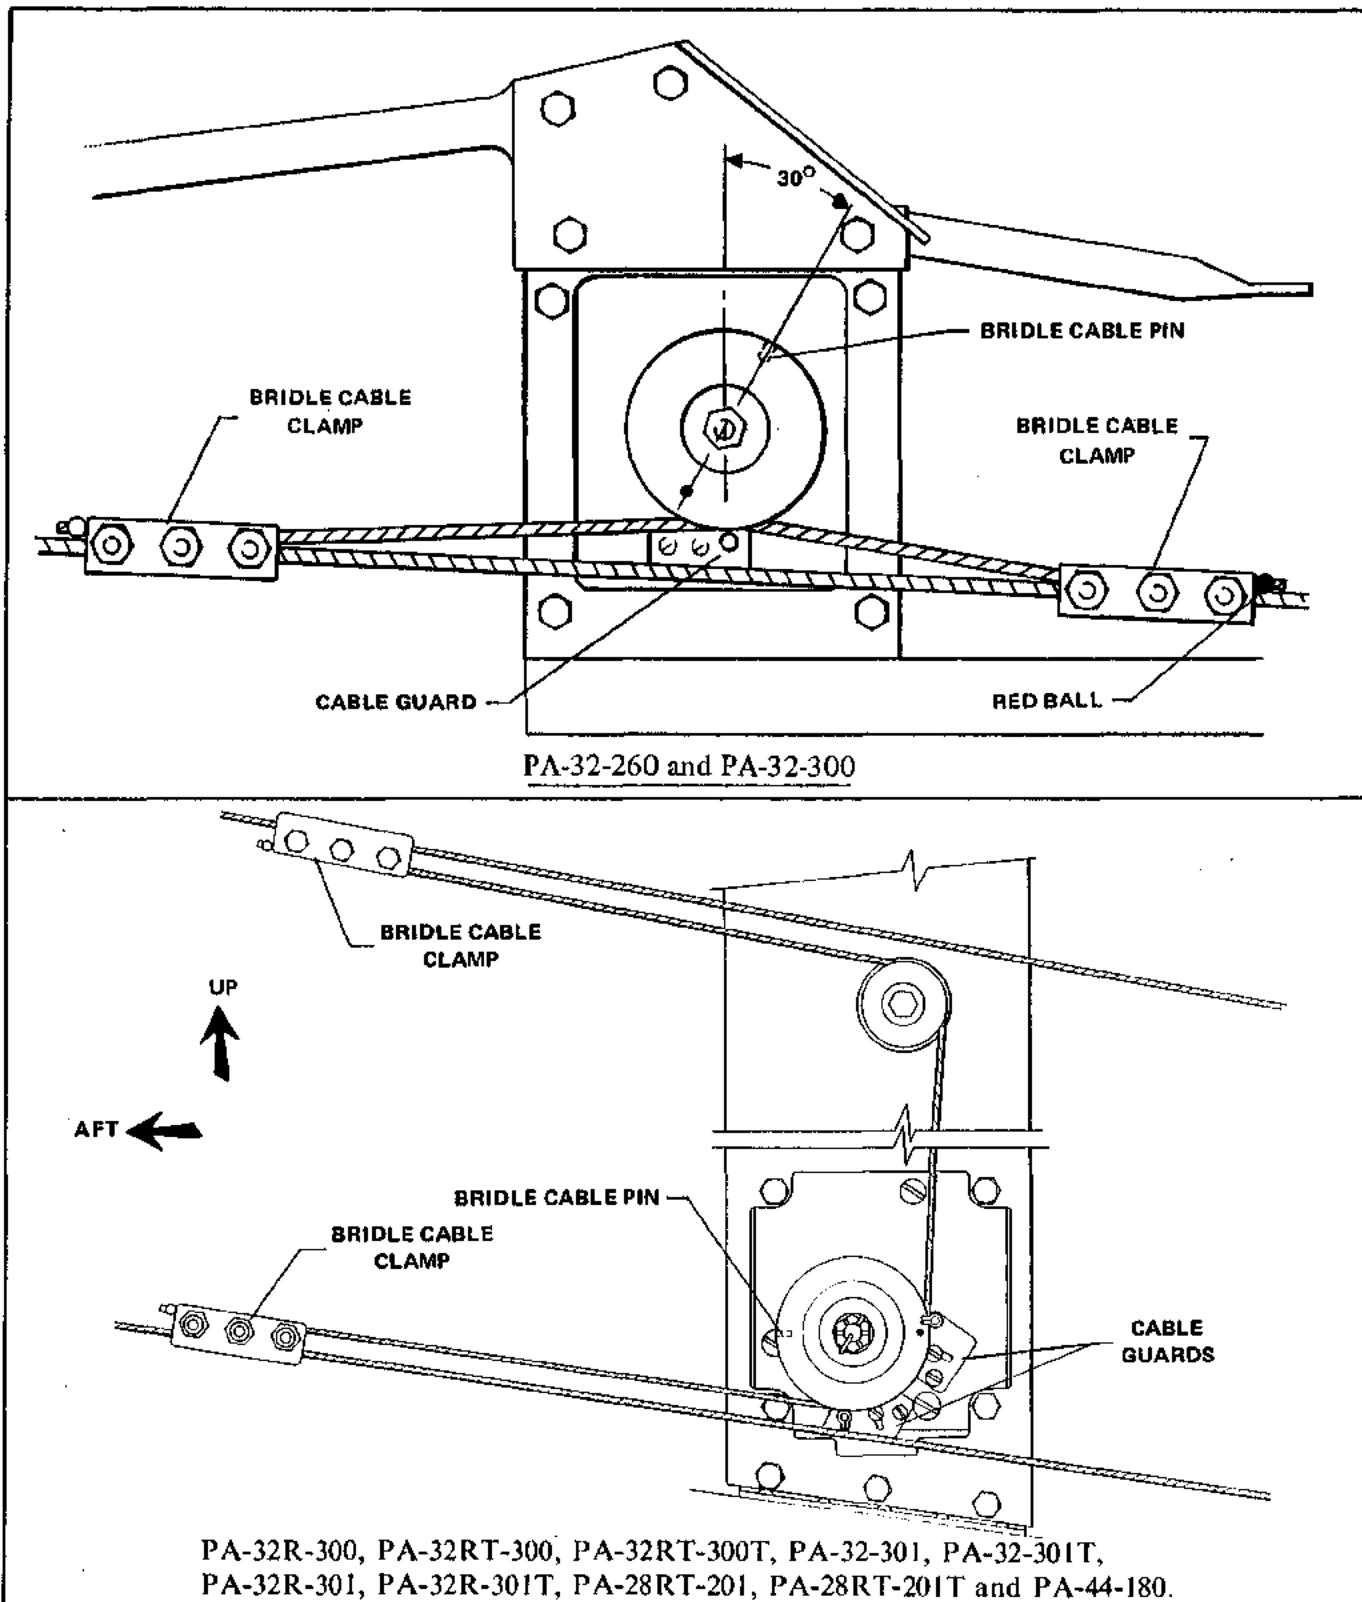

Figure 3-28. Pitch Servo Installation
(Refer to Figure 3-28.)
- e. REFER TO FIGURE 3-9 AND CHECK THAT THE CONTROL CABLE TENSION (z) IS ADJUSTED TO  $40 \pm 5$  POUNDS PRIOR TO ATTACHING THE BRIDLE CABLE CLAMPS. Ascertain area on cable where clamp attaches is clean, dry and free of all lubricants and anti-corrosive additives. Attach the bridle cable to the stabilator control cable. The bridle cable is drawn to the right stabilator control cable and attach with clamps at the previously painted locations on the control cable. The longest portion of the bridle cable or the end with the red ball extends aft. (Refer to Figure 3-28.) (Should the balance cable not be painted, position the control wheel full forward and with the servo disengaged, position the capstan pulley so that the bridle cable pin is aligned as shown in Figure 3-28.) Adjust the bridle cable clamps so the cable tension (y) is equal to the control cable tension between the bridle cable clamps (x) without increasing the control cable tension from the bridle cable clamps outward. At no time shall the bridle cable tension be greater than the control cable tension between the clamps. Adjusting the bridle cable tension will lower the control cable tension between the two bridle cable clamps. Torque the bridle cable clamp bolts to  $55 \pm 5$  inch pounds.
**3-86. INSTALLATION OF PITCH SERVO.** (PA-32-300, S/N 32-7940001 and up; PA-32R-300; PA-32RT-300; PA-32RT-300T; PA-32-301; PA-32-301T; PA-32R-301 and PA-32R-301T) (Refer to Figure 3-28.)
- e. REFER TO FIGURE 3-9 AND CHECK THAT THE CONTROL CABLE TENSION (Z) IS ADJUSTED TO  $40 \pm 5$  POUNDS PRIOR TO ATTACHING THE BRIDLE CABLE CLAMPS. Ascertain area on cable where clamp attaches is clean, dry and free of all lubricants and anti-corrosive additives. Attach the bridle cable to the stabilator control cable. The bridle cable is drawn to the right stabilator control cable and attached with clamps at the previously painted locations on the control cable. The longest portion of the bridle cable or the end with the red ball extends aft. (Refer to Figure 3-28.) (Should the balance cable not be painted, position the control wheel full forward and with the servo disengaged, position the capstan pulley so that the bridle cable pin is aligned as shown in Figure 3-28.) Adjust the bridle cable clamps so the bridle cable tension (Y) equals  $15 \pm 0.5$  lbs. tension between the bridle cable clamps (X) without increasing the control cable tension from the bridle cable clamps outward. At no time shall the bridle cable tension be greater than the control cable tension between the clamps. Adjusting the bridle cable tension will lower the control cable tension between the two bridle cable clamps. Torque the bridle cable clamp bolts to  $55 \pm 5$  inch-pounds.